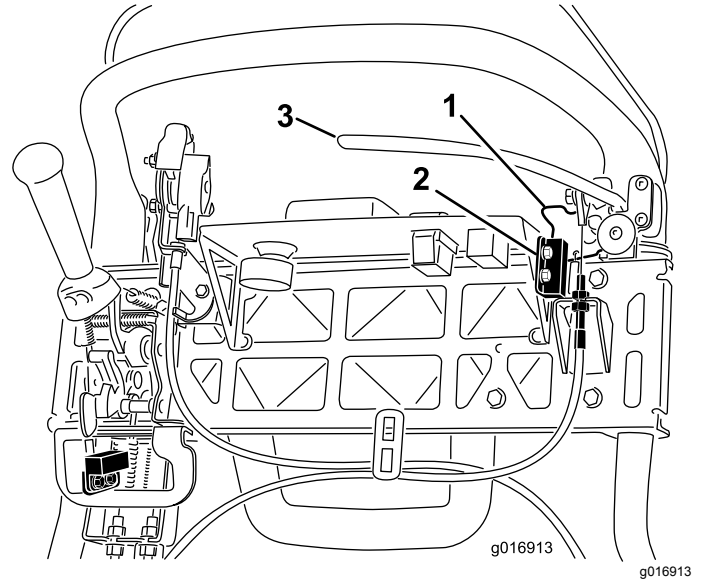

Figure 45
- Loosen and remove the interlock switch mounting fasteners (Figure 45).
- Place a 1.6 mm (0.062 inch) thick shim between the parking-brake latch and the interlock switch (Figure 45).
4. To increase the cable tension, loosen the upper cable jam nut and tighten the lower cable jam nut (Figure 45) until a force of 156 N (35 lb) applied to the brake lever handle is required to release the parking-brake latch.